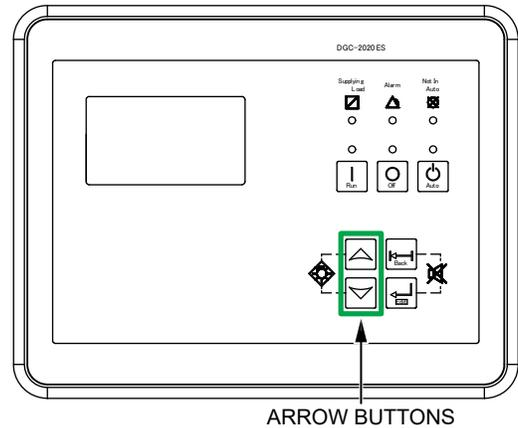

Figure 56. Digital Controller (Arrow Buttons)
2. Use the Arrow buttons (Figure 56) to navigate to the **J1939 DTC menu** (Metering->Alarms-Status->J1939 DTC). This will allow the operator to perform the following fault diagnostics: